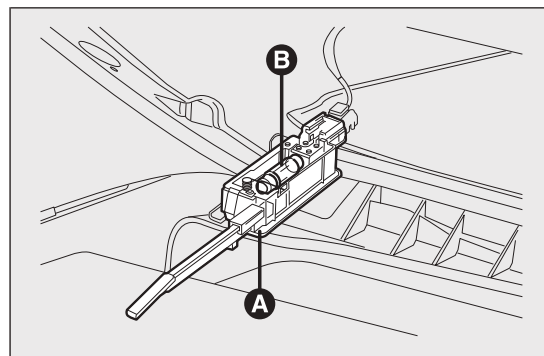

fig. 162
- open the glove compartment and extract roof light A fig. 162;